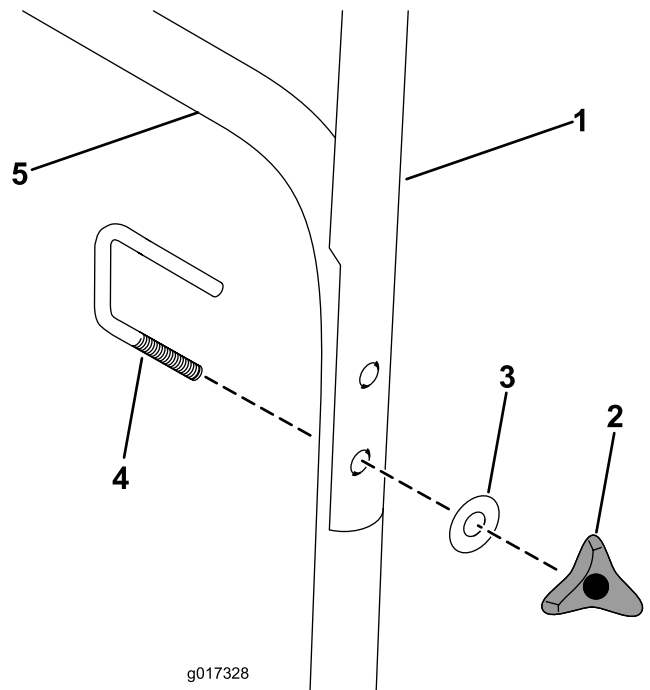

Figure 4
5. Fit the U bolt through the upper and lower handle and secure it with a washer and a hand wheel (Figure 4).
4. Align the holes on the upper handle with the lower handle (Figure 4).